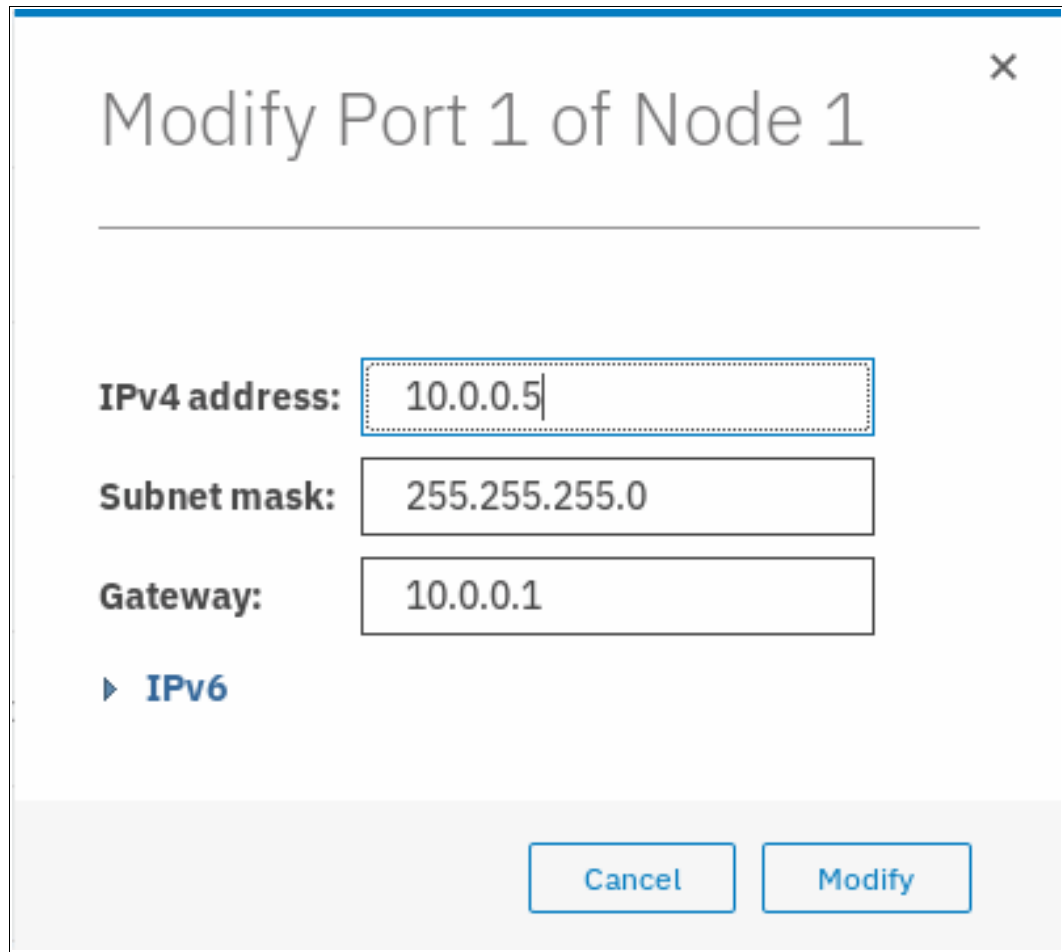

Figure 5-61 Configure iSCSI IP
- After you enter the IP address, subnet mask, and gateway, click **Modify** to enable the configuration, as shown in Figure 5-61.